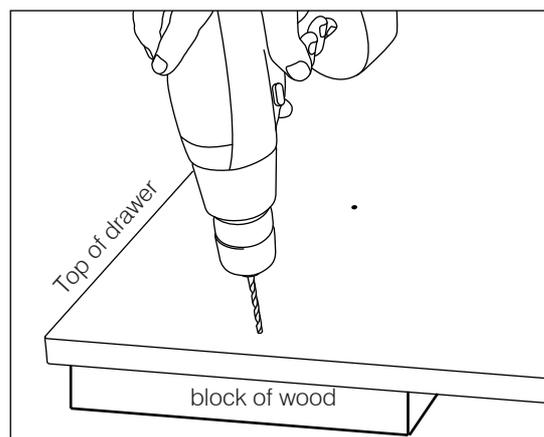

Figure 8
- Clamp a piece of wood on the back of the drawer (being careful not to damage the front) and drill through carefully from the front. See figure 8.